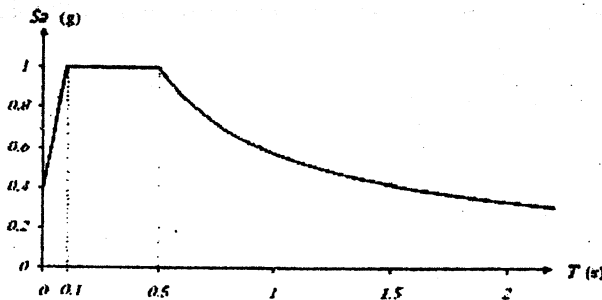

Fig. 3
3. A 2-storey shear frame is shown in figure below with the indicated lumped masses and storey stiffnesses. The acceleration response spectrum given in figure 3 is applicable to the frame. Determine, for the frame: